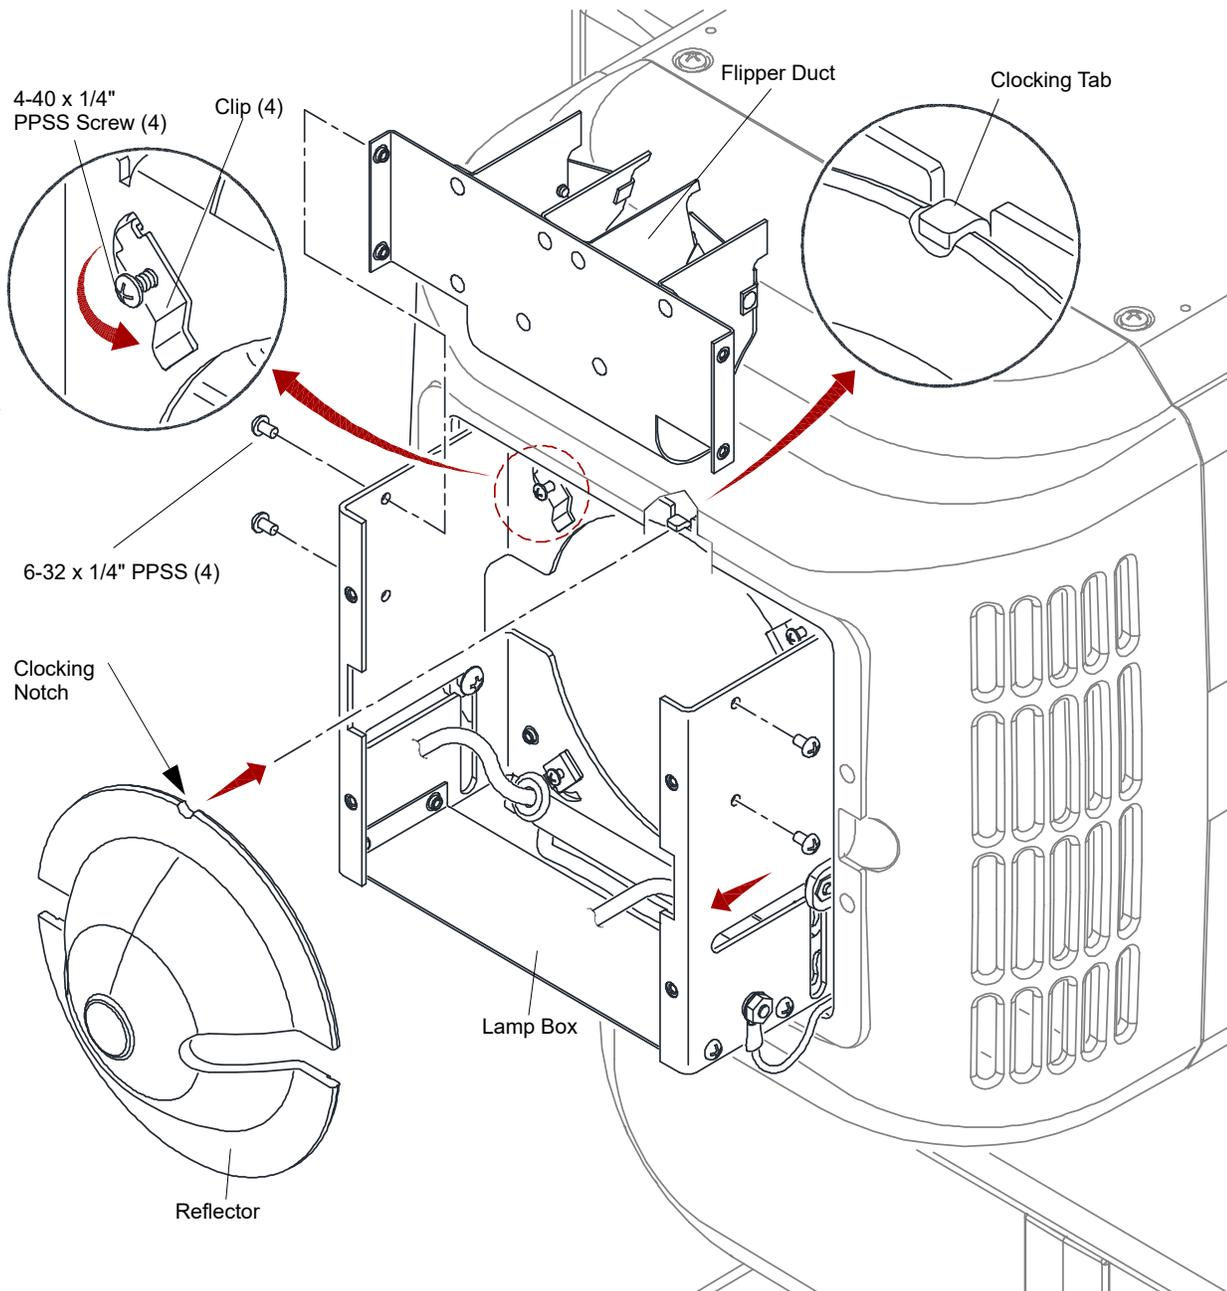

Figure 3-46: Replacing Reflector
- Step 6. At Lamp Box, remove Flipper Duct by removing four 6-32 x 1/4" PPSS screws (**Figure 3-46**).
**Note:** When installing the Reflector, align its clocking notch with the clocking tab as shown below in **Figure 3-46**.